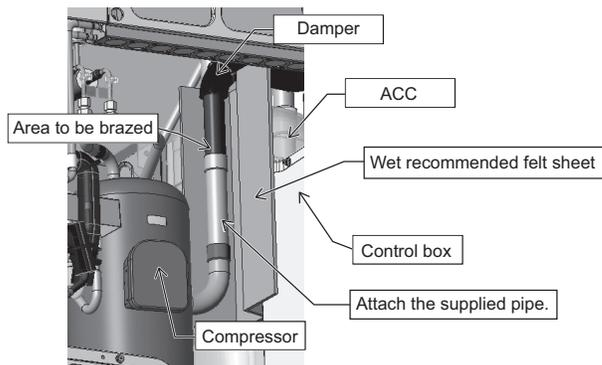

Figure 13
(13) Tilting the compressor will cause the refrigerant oil to leak. Seal the pipe where it was cut or removed at the brazed section.
(14) Braze the suction pipe using a wet recommended felt sheet. Use caution not to damage the control box, ACC, compressor cover, or dumper during brazing. (See Figure 13.)